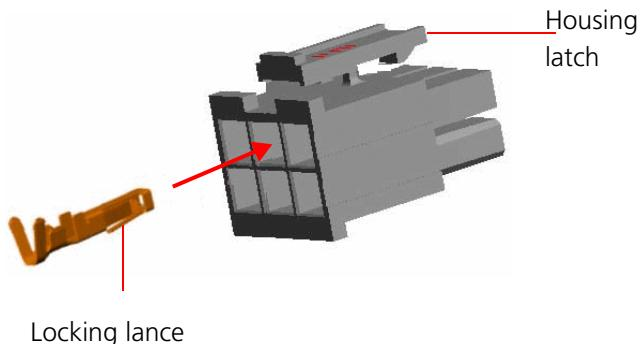

Figure 2-28: Inserting a Contact into the Housing
- 7 To insert a contact into the housing, align the contact with the desired cavity at the rear of the housing as shown in Figure 2-28. In all rows the locking lance must be facing away from the housing latch to engage the contact in the cavity. Push the contact straight into the cavity until an audible click is heard. Give the lead a light tug to confirm that the contact is locked in place.
Figure 2-28 reflects the direction in which the pins are connected. Make sure that you connect the pins accordingly.